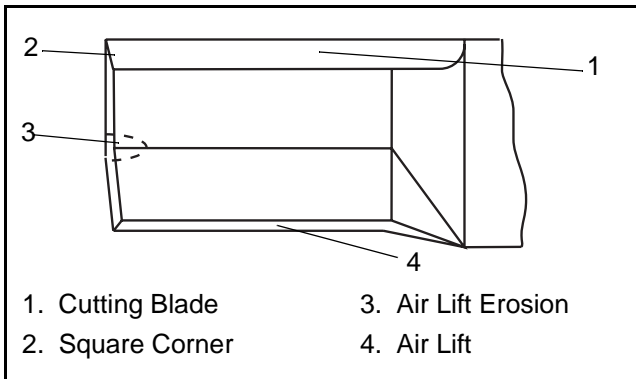

Figure 12
**NOTE:** If mower is used under sandy soil conditions, replace mower blades when air lifts become eroded through at ends (Figure 12).